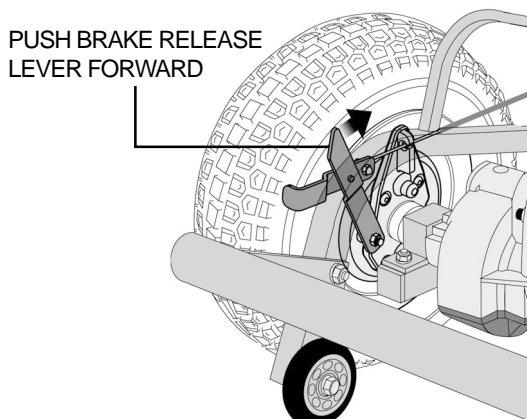

Figure 21. Brake Release Lever
8. (If equipped) Disconnect the handbrake cable from the rear hub by pushing forward and holding the brake release lever with your thumb. See figure 21. Lift the cable release hook free of the peg and slide the handbrake cable free of its slot on the brake mount. See figure 21A. Move the cable safely out of the way.